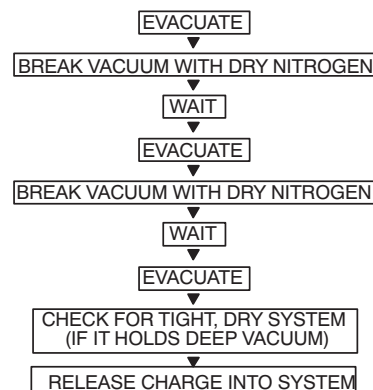

Fig. 50 — Triple Evacuation Method
The triple evacuation method should be used when vacuum pump is not capable of pumping down to 500 microns and system does not contain any liquid water. Refer to Fig. 50 and proceed as follows:
5. Repeat this procedure as indicated in Fig. 50. The system should now be free of any contaminants and water vapor.